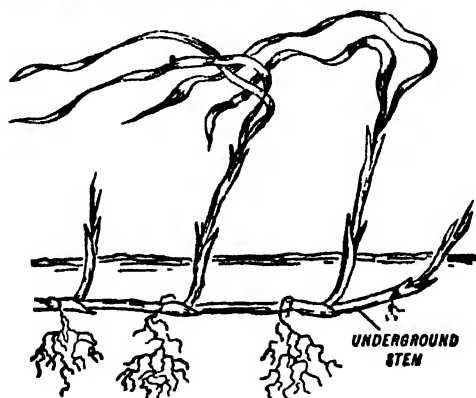

Fig. 130. Rhizome of Couch Grass.
2. Rhizomes. Couch Grass (Fig. 130) and Iris have long running underground stems. At intervals along these stems, adventitious roots and leaves arise. The stem is terminated by a bud. Couch Grass is a troublesome weed in the garden as these underground stems often stretch for several feet, and after weeding, the plant will appear again unless every trace of the stem is dug out.